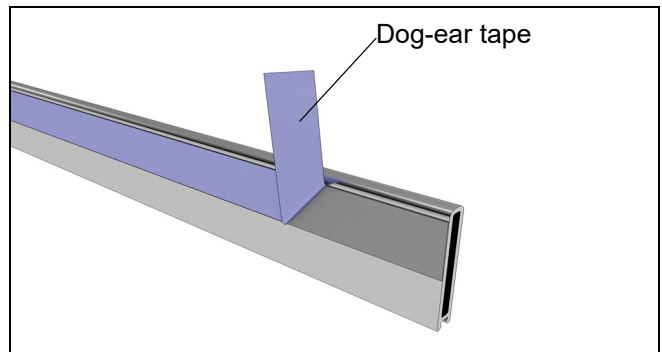

Figure 50
35. Peel back the backing on the tape and dog-ear it, exposing the tape by 2". See Figure 50.